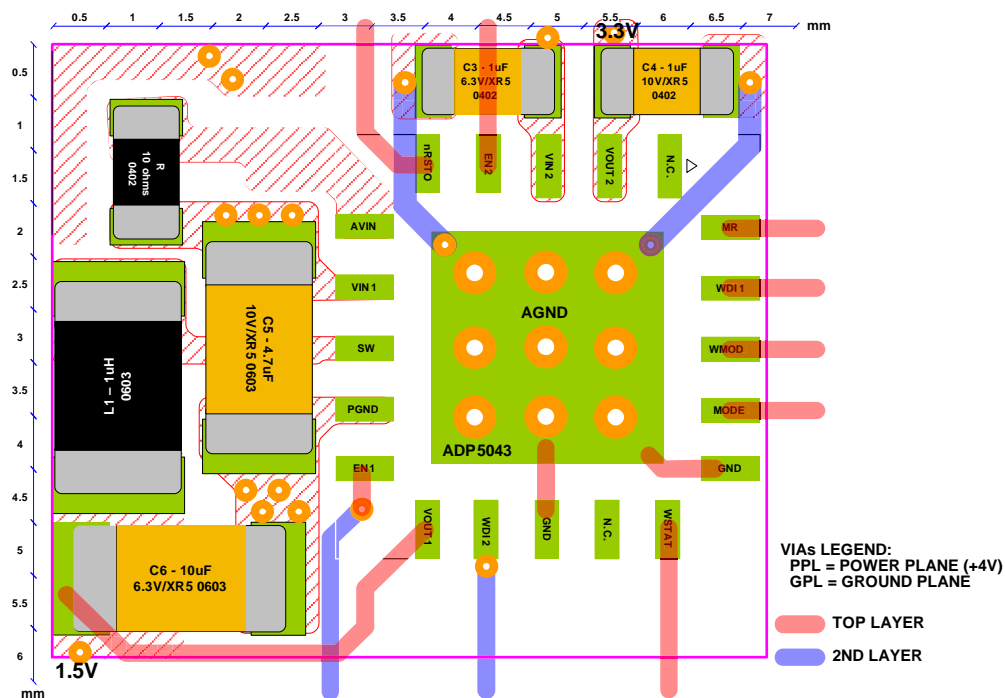

Figure 55. Layout
The typical θ_{JA} value for the 20-lead, 4 mm × 4 mm LFCSP is 38°C/W, see Table 7. A very important factor to consider is that θ_{JA} is based on a four-layer 4" × 3", 2.5 oz copper, as per Jedec standard, and real applications may use different sizes and layers. It is important to maximize the copper used to remove the heat from the device, and copper exposed to air dissipates heat better than copper used in the inner layers. The thermal pad (TP) should be connected to the ground plane with several vias as shown in Figure 55.